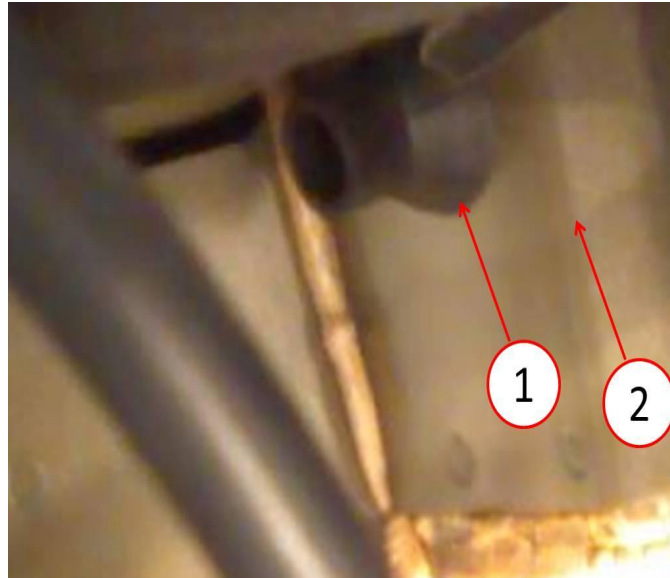

Fig. 6 Drain Tube Grommet Seated
6. Verify the grommet is correctly seated in the bulk head using a mirror and position it behind the strut tower looking at the upper right corner (Fig. 6).